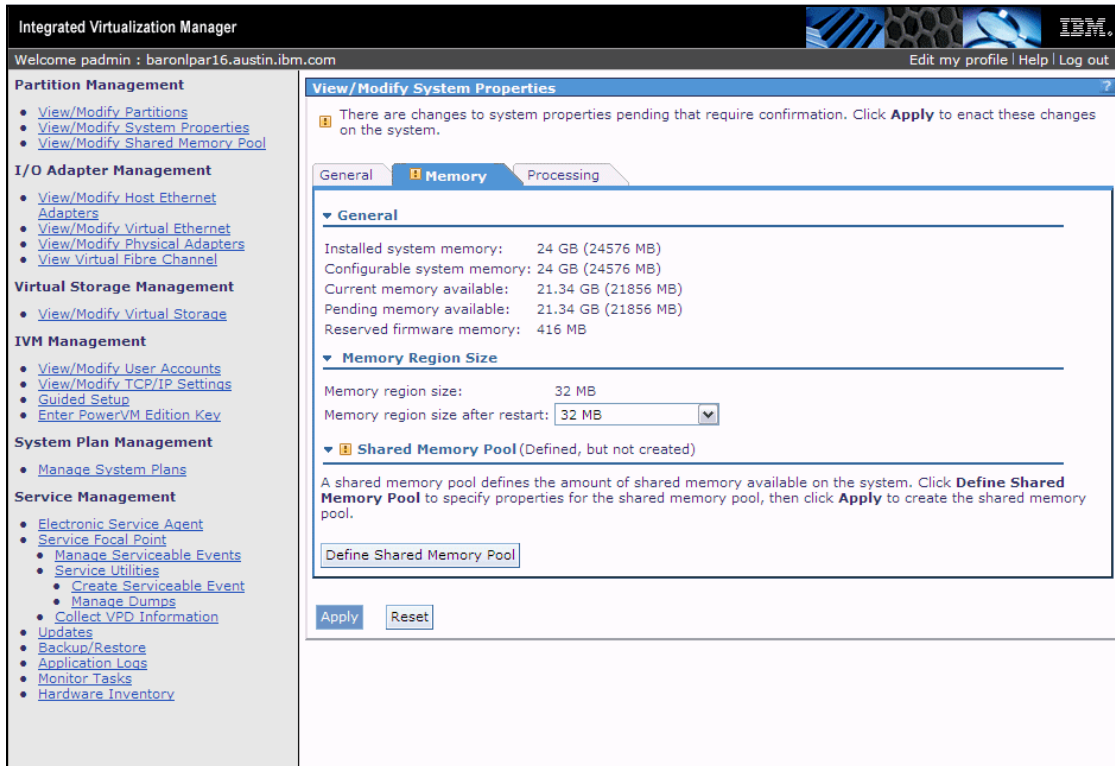

Figure 5-7 Shared memory pool defined state
5. After clicking the **OK** button the screen will refresh and indicate the shared memory pool has been defined as shown in Figure 5-7 on page 190.